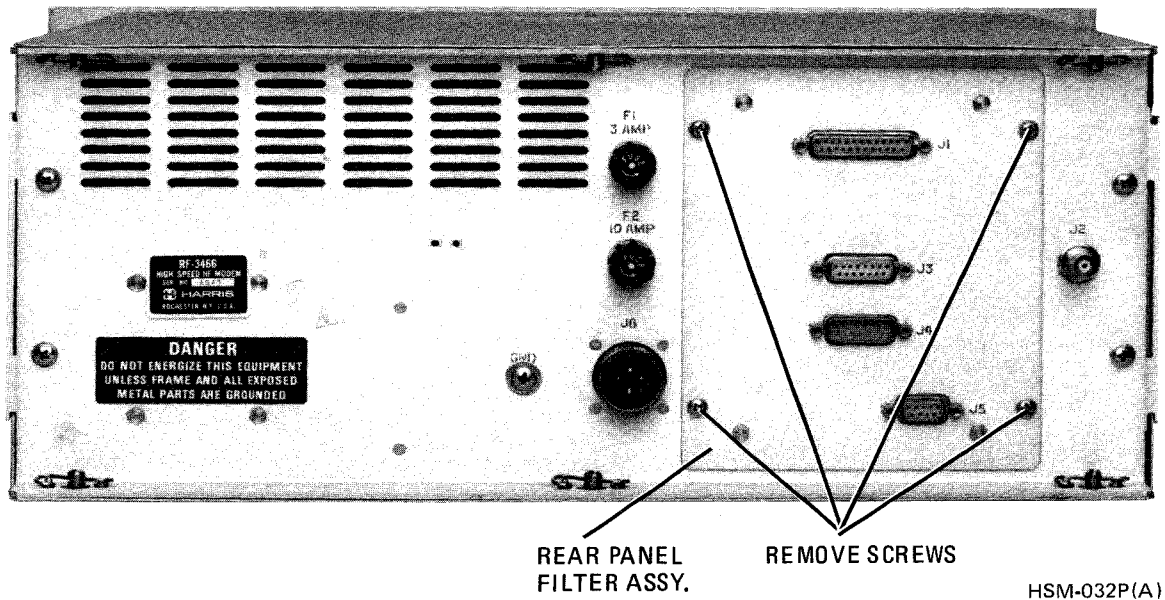

Figure 5-5. Filter Assembly Location and Removal
- b. Remove the four screws that secure the filter assembly to the rear panel (see figure 5-5).